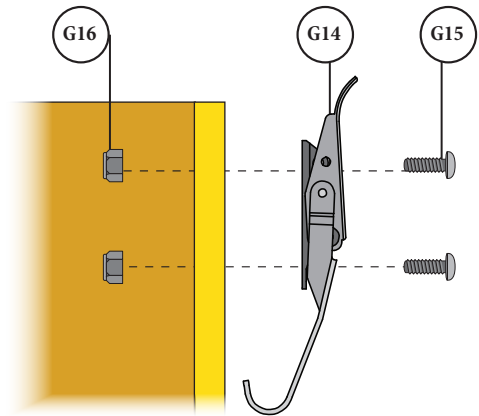

FIG. 2
Align the Latches (G14) onto the holes on either side of the Wall Bracket (F) and secure them in place using two Pan-Head Screws (G15) and Nylock Nuts (G16) [FIG 2].